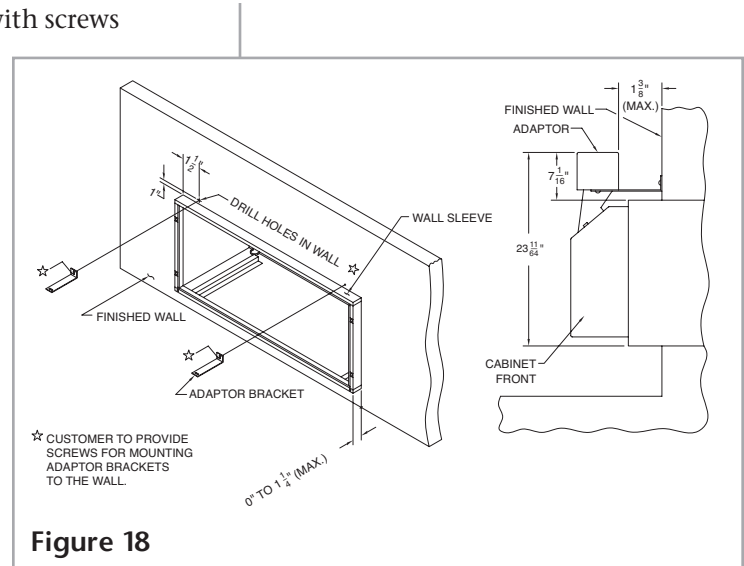

Figure 18
1. Mount adaptor brackets to the wall as illustrated. Installer to provide screws. (See Figure 18.)